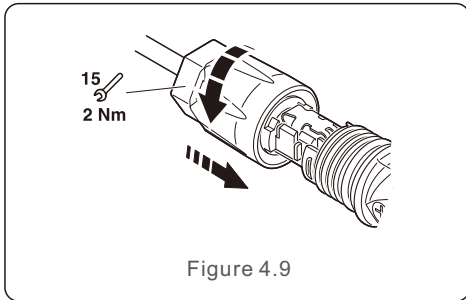

Figure 4.9
- Step 4. Push the insert into the sleeve and tighten the cable gland with 2N.m torque. (see figure 4.9)